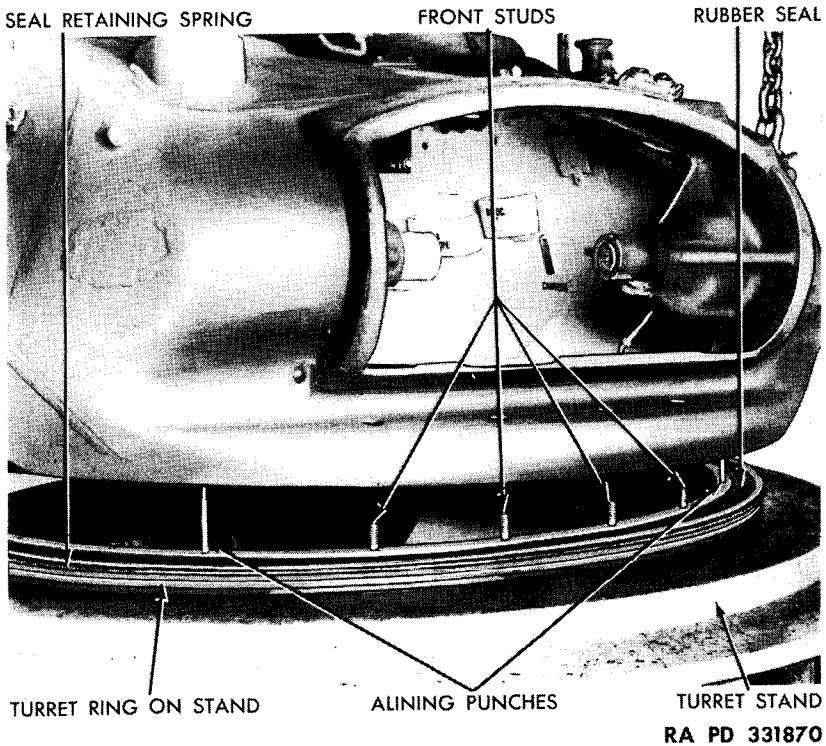

Figure 63. Removing turret from ring gear (M24).
7. REMOVE TURRET RING GEAR FROM TURRET. Remove 16 remaining screws with internal tooth lock washers holding turret to ring gear. Remove 4 nuts from 4 studs on front of turret. Attach a sling to lifting eyes of turret and remove turret from turret ring gear (fig. 63). Remove oil seal retaining spring from outer edge of ring gear. Remove rubber oil seal from outer edge of ring gear. Note that feather edge of seal is toward top of gear.